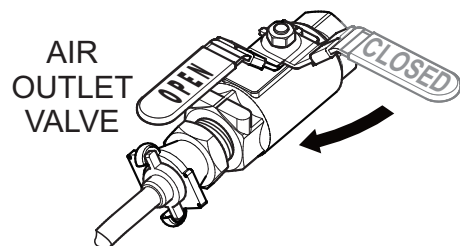

Figure 25. Air Outlet Valve (OPEN)
- Place the selected air outlet valve (Figure 25) in the **OPEN** position to deliver compressed air to the load.